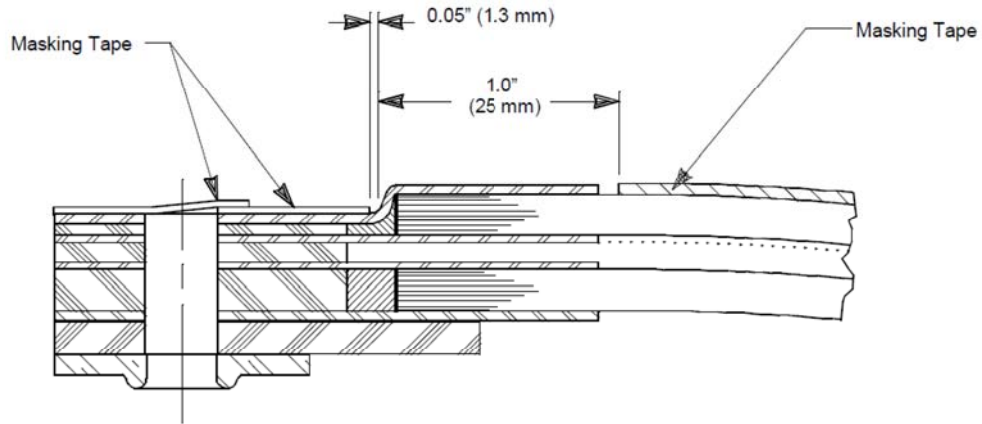

Figure 2 – Masked Windshield
- (2) Mask off the outer glass surface of the window 1.0" (25mm) in from the step of the outboard fiberglass strap and 0.05" (1.3mm) out from the step of the outboard fiberglass strap. (See Figure 2)
- (1) If masking has been damaged during strap removal, re-mask per step 1.B.(2). (See Figure 2)
- (2) Degrease the work area of the windshield with a suitable solvent (i.e. Methyl Ethyl Ketone) using a progressive cleaning procedure of cleaning a small area at a time with MEK followed by an isopropyl alcohol rinse to remove solvent residue and then dry with a clean cloth. Discard soiled cloths regularly to prevent re-deposit of contaminants.
- (3) Soak a block of clean felt with water. Use a slurry of either pumice or cerium oxide and water to polish by hand the exposed glass surface all around until observing a water-break free surface. A water-break free surface is present when the water completely “wets” or “sheets” over the glass surface with no sign of drawing up or receding into droplets showing dry areas in-between. Achieving the water-break free surface is critical to ensure adhesion of the sealant to the outer glass surface.
- (4) After a water-break free surface is obtained, clean the entire area with an 80% isopropyl alcohol and 20% water solution and wipe dry with a lint-free cloth or towel.
- (5) If the Z-Strap was de-bonded in the upper forward corner as described in step 1.B.(4) CAUTION 2, a reliable connection between the anti-static coating and the heating mat ground wire must